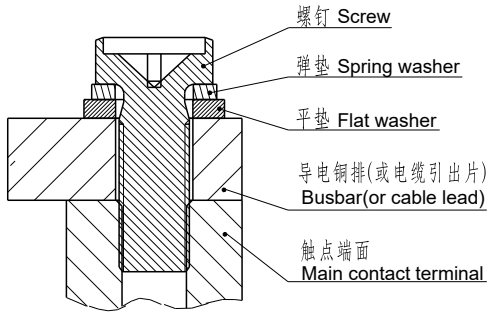

图1(Fig1)
- 当产品使用1个及多个导电铜排连接时，请确保导电铜排与触点端面紧密贴合（多个铜排需确保大电流的导电铜排最贴近触点端面，小电流的导电铜排其次），然后是平垫圈、弹簧垫圈、螺钉。不正确的连接顺序可能造成严重过热，参考下图1：
When the product is connected with one or more conductive copper bars, please ensure that the conductive busbars closely fit the contact terminal surface (The conductive copper bars with high current must be closer to the contact terminal surface if there are multiple copper bars and then conductive busbars with low current), followed by flat washers, spring washers and screws. Incorrect connection sequence perhaps give rise to severe overheating. Refer to Figure 1 as follows: